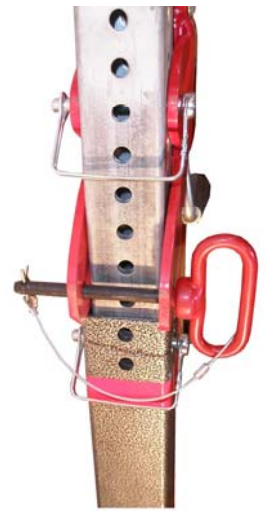

Figure 4
WARNING: Insert pins completely; Pins **MUST** be pushed in completely and lanyard clips must be locked. (Figure 4)
Step 5. Slowly extend Strut Jack, by rotating handle counterclockwise until top of the jack head lines up with a hole in the center section of the strut. Insert steel strut pin. Slide completely in and lock lanyard clip. (Figure 4)